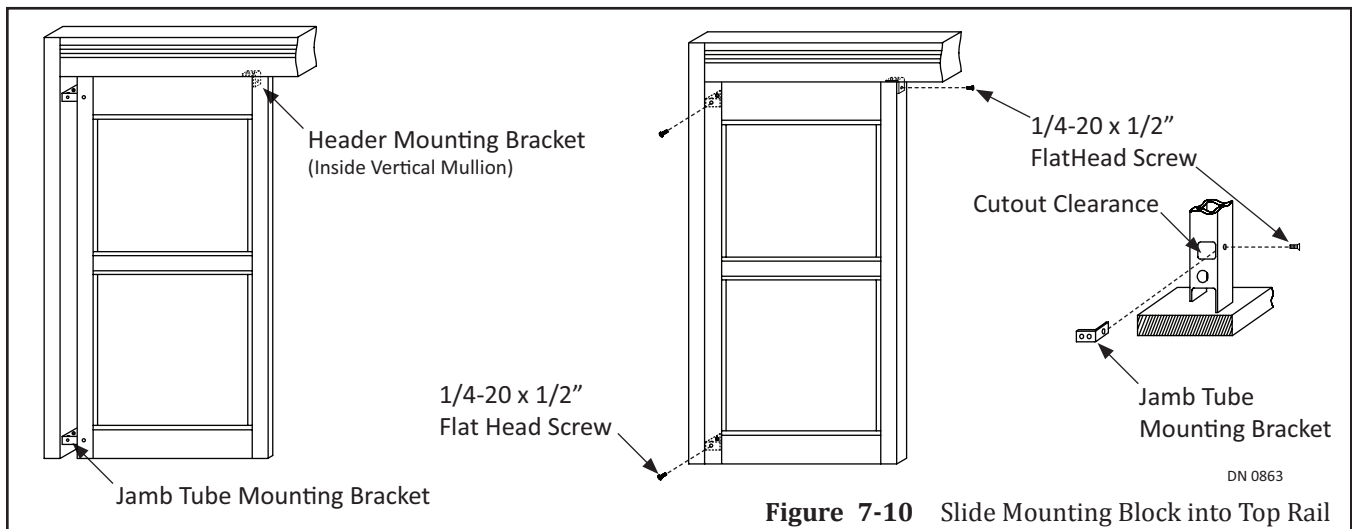

Figure 7-10 Slide Mounting Block into Top Rail
4. Locate (1) Mounting Bracket that was preinstalled under the Bottom Lip of Header.
- b. Move the Fixed Sidelite forward so the Pivot Stile does not scrape up against the (2) Mounting Brackets that were preinstalled on the Pivot Jamb Tube.
6. Locate (2) Cut Outs on the side of the Pivot Jamb Tube. Please see Figure 7-10.
7. Align and then slide the Fixed Sidelite until (2) Mounting Brackets are seated inside each Cut Out.
9. Align all (3) Mounting Bracket screw holes with the Pivot Stile screw holes and the Strike Stile screw hole.
10. Secure (2) Mounting Brackets located on the Pivot Jamb Tube to the Fixed Sidelite with (2) 1/4-20 x 1/2 inch Flat Head screws provided by NABCO.
11. Secure (1) Mounting Bracket located under the Bottom Lip of Header with (1) 1/4-20 x 1/2 inch Flat Head Screw.